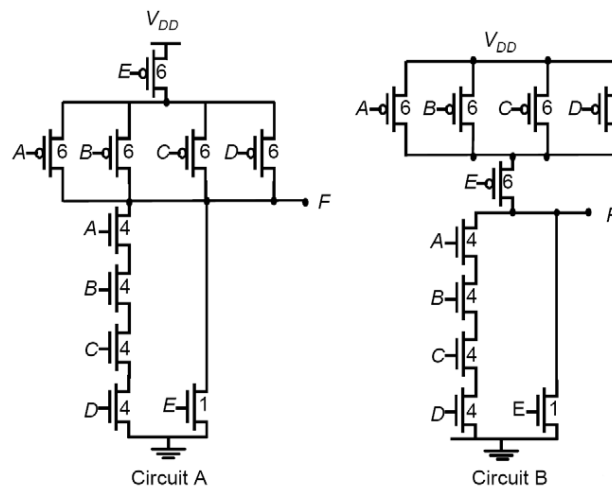

Figure 1. 2 Static CMOS Circuits
- Do the following two circuits (Figure 1) implement the same logic function? If yes, what is that logic function? If no, give Boolean expressions for both circuits. [3 pts]